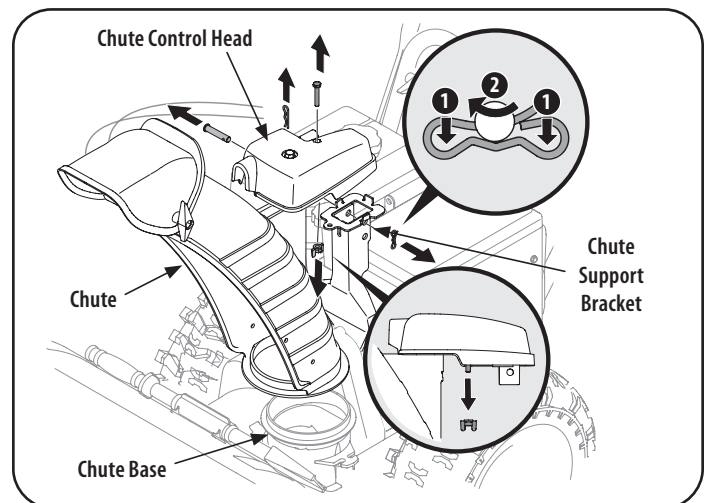

Figure 34
1. Remove cotter pin, wing nut, and hex screw from chute control head and clevis pin and bow-tie cotter pin from chute support bracket. See Figure 34.